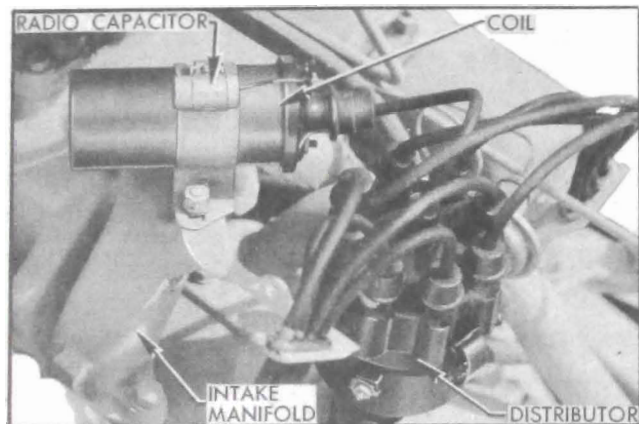

Figure 10-46—Coil and Distributor
ing cranking of engine. The negative (—) terminal is connected to the primary terminal of the distributor. The secondary (high tension) terminal is connected by a short cable to the center terminal in distributor cap. See figure 10-46.
(4) *Ignition Distributor.* The ignition distributor is mounted on top of the engine crankcase at the rear end. See figure 10-46. It is driven *clockwise* directly from the camshaft through steel gears which are automatically lubricated by the engine oiling system. The gear thrust is upward against a special bronze thrust washer.
stalled. See figure 10-46.